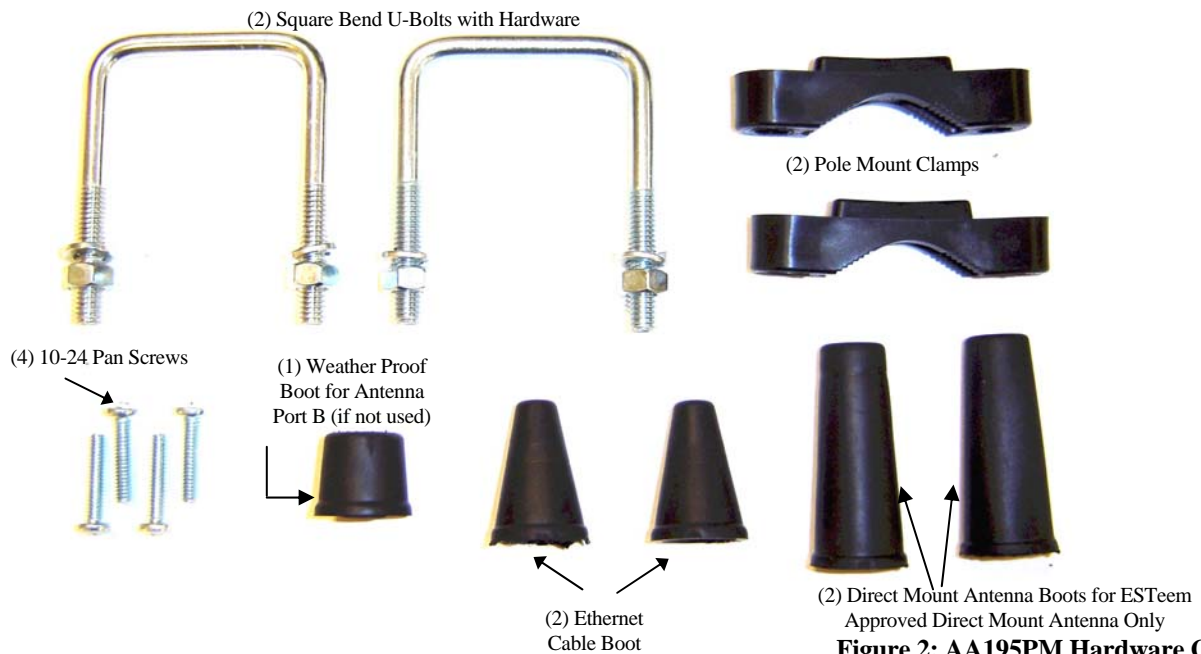

Figure 2: AA195PM Hardware Contents
3. Inventory the AA195PM Hardware bag for all the components listed in Figure 2.